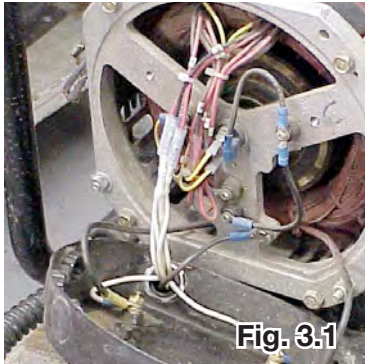

Fig. 3.1
- Inspect the wire bundles for chaffing, loose or broken connections. Repair if needed (See Fig. 3.1).